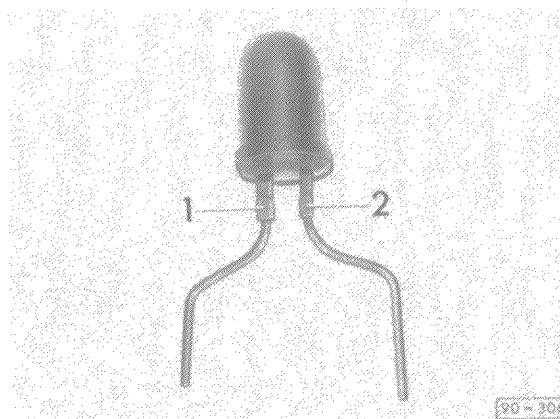

Fig. 8 LED polarity, checking
- note polarity of LED's (see Fig. 8) when plugging into printed circuit